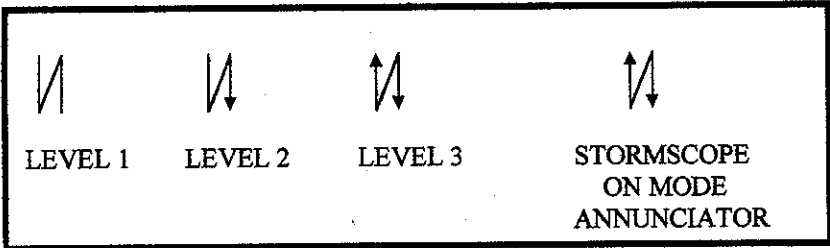

FIGURE 3-1
C. With either configuration, the Stormscope™ presentation on EFIS is enabled by pressing either ARC or HSI to enter 360° map mode; then press HSI or ARC to enable Stormscope™ data which is the next selection sequence after MAP for both ARC and HSI buttons (up to 10 seconds delay). Stormscope™ mode is annunciated by a lightning bolt, with an arrow on each arm and the word "ON", in the lower left corner of the EFIS display (Figure 3-1). "ARC" (expanded sector mode) is selected by pressing ARC and the Stormscope™ is enabled by pressing "ARC" again. In either presentation (360° or ARC) Stormscope™ is de-selected by pressing HSI or ARC buttons. This method selects both Lightning and Weather if so configured.
D. The location of up to 63 cells of electrical activity are presented on the EFIS indicator. These cells are not individual discharges but the intensity level of activity in that cell and displayed as a single lightning bolt for Level 1 (lowest level). Level 2 is displayed as the same lightning bolt with a point on the lower leg. Level 3 is displayed as the same lightning bolt with a point on the upper and lower leg. (Figure 3-1)